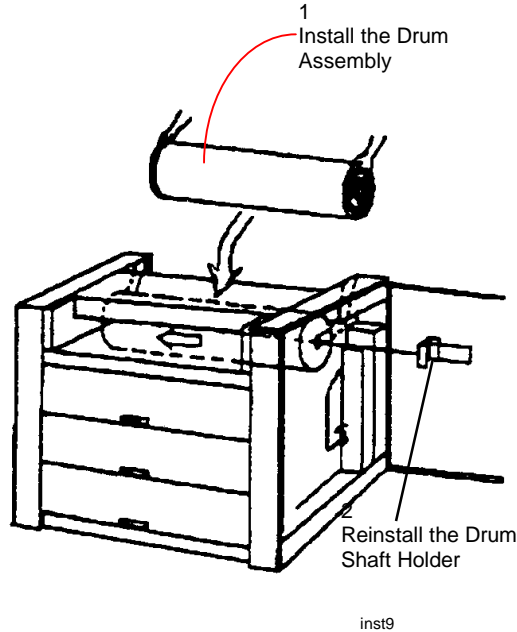

Figure 8. Installing the Drum Assembly
9. (Figure 8): Install the Drum Assembly.